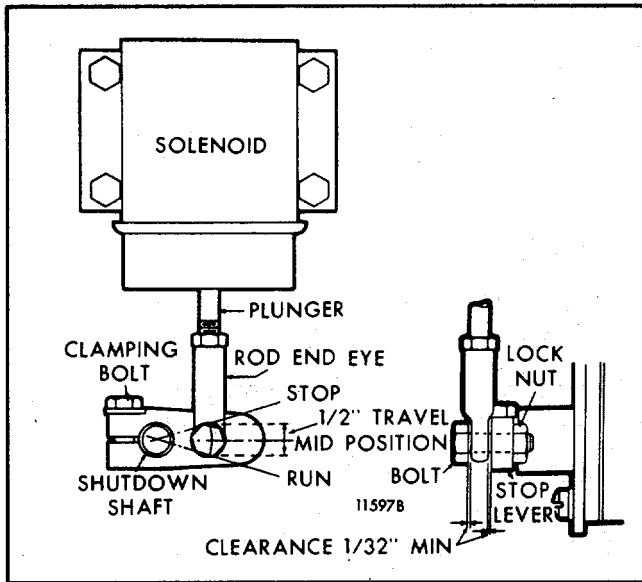

FIG. 6 - Typical Variable Speed Governor Lever Position
1. Remove the bolt connecting the rod end eye (variable speed governor) or the right angle clip (limiting speed governor) to the stop lever (Figs. 6 and 7). Align and clamp the lever to the shutdown shaft in such a way that, at its mid-travel position, it is perpendicular to the solenoid plunger. This assures that the linkage will travel as straight as possible. The solenoid plunger has available 1/2" travel which is more than adequate to move the injector control racks from the full-fuel to the complete no-fuel position and shutdown will occur prior to attaining complete travel.